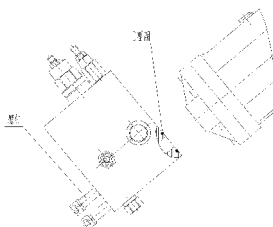

Figure 7:
- ◆ Fill the oil through the upper oil inlet on the motor housing (see figure 7 T1) with full.